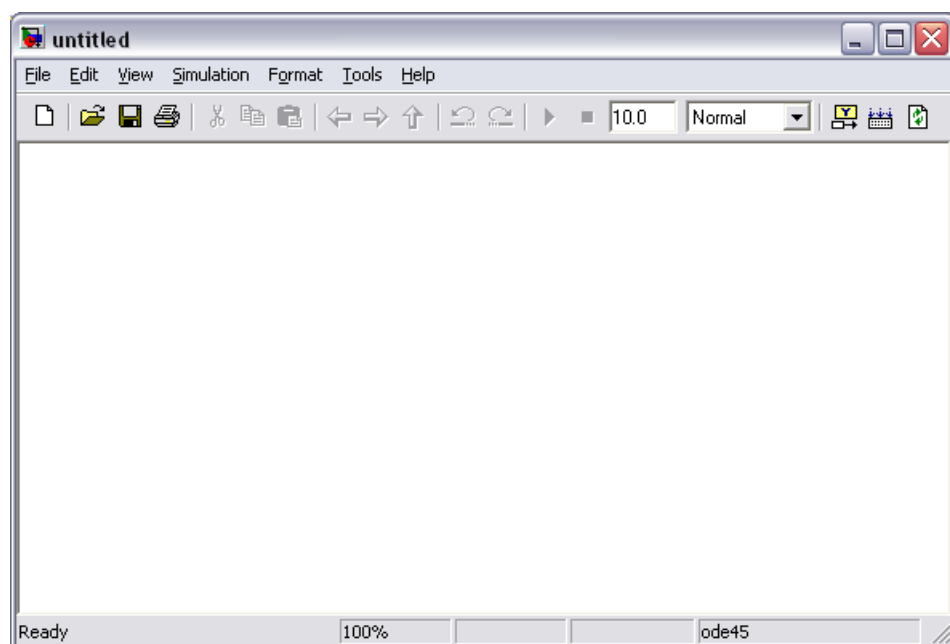

Figure 7 Model Simulink window
- You may open a new Simulink model by pressing the '*Create a new model*' icon . The following model window will open (Figure 7):